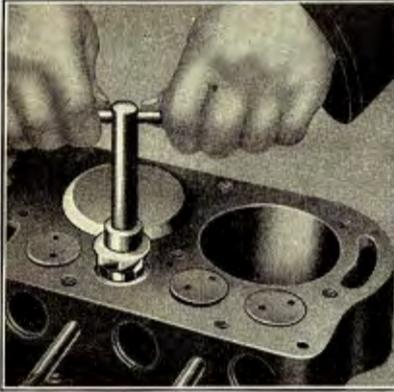

Fig. 146
- 221** If valve seats in cylinder block are pitted, the pits can be removed with a valve reseating tool. The valve reseating tool is inserted into the valve seat in cylinder block as shown in Fig. 146, and sufficient metal removed from valve seat to clean up the pitted spots. If valve stem guides have previously been reamed oversize a reseating tool with an oversize pilot should be used. The valves are then ground as described in Par. 369, after which they are removed and all grinding compound washed from valves and cylinder block.